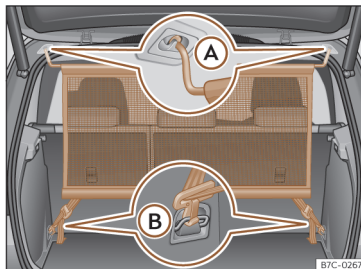

Fig. 118 Net partition fitted.
- Secure the net partition in the left housing of the roof >>> Fig. 118 (A). Make sure to move the cross rod down beyond the upper position.
- Hook in the net partition on the rear right-hand side roof housing by pressing on the rod >>> Fig. 118 (A).
- Secure two hooks of the partition net to the fastening rings of the boot >>> Fig. 118 (B) and tighten the straps firmly.